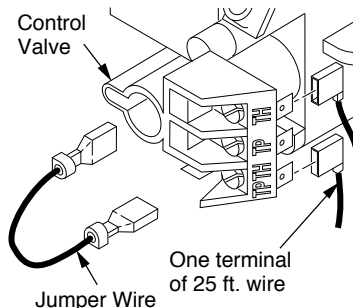

Figure 32 - Connecting Wire Terminals
1. Disconnect jumper wire from control valve (see Figure 32).
2. Connect one terminal of 25 ft. wire to "TPTH" terminal on control valve (see Figure 32).
3. Connect remaining wire terminal to the "TH" terminal on the control valve. Make sure that wire terminals are in the positions on your unit as pictured in Figure 32.
1. Connect one terminal of 25 ft. wire to "TPTH" terminal on control valve (see Figure 32, page 22).
2. Connect remaining wire terminal to the "TH" terminal on the control valve. Make sure that wire terminals are in the positions on your unit as pictured in Figure 32, page 22. If wires are not "crossed" the thermostat will not work.